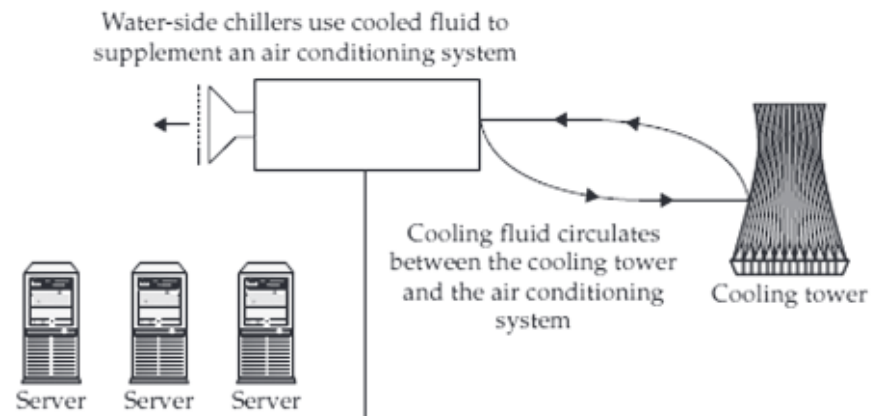

Fig. 3 Water-side economizers cool using a loop connecting to a cooling tower, evaporative cooler or dry cooler.
- Fluid in the cooling system passes through a coil to cool the room, thus eliminating the need for the compressor to operate. A water-side economizer is shown in Figure 3.